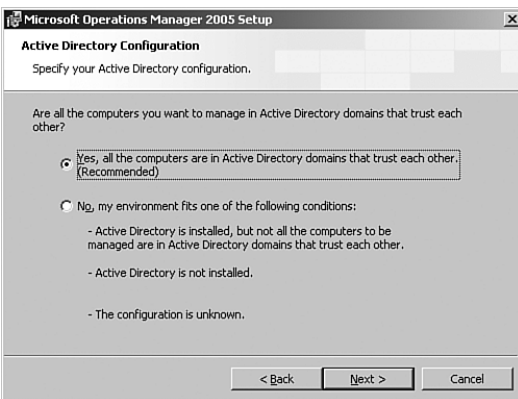

FIGURE 6.9 Specifying your Active Directory configuration.
8. Select the appropriate Active Directory option for your environment and this particular management group, as illustrated in Figure 6.9: